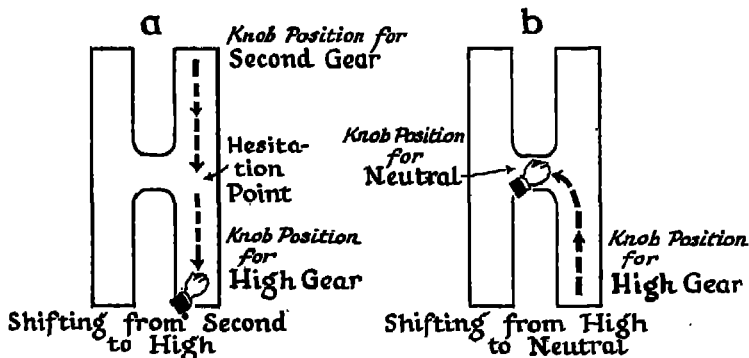

FIG. 173. The gear-shift lever knob is pulled back in a straight path when shifting from second to high gear.
- c. With palm down, move the gear-shift lever straight back past neutral to third, or high speed position, as shown on the direction line of Fig. 173 (a). Notice the hesitation point and practice observing it.
- c. Move the gear-shift lever directly to neutral, in the direction indicated in Fig. 173 (b).
- c. Shift from third gear to second, reversing the direction shown in Fig. 173 (a).